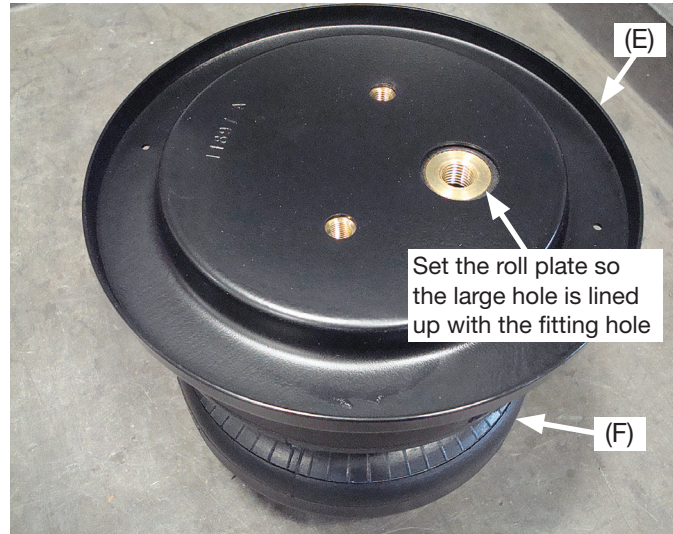

Fig. 10
1. Set a roll plate (E) over the top of each air spring (F) (Fig. 10).